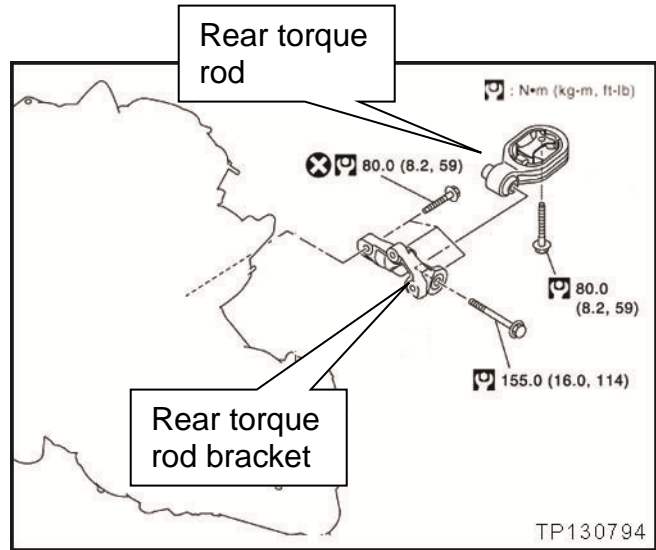

Figure A1
- Torque rod is held on with 2 bolts (see Figure A1).
- Bracket is hold on with 3 bolts (see Figure A1).